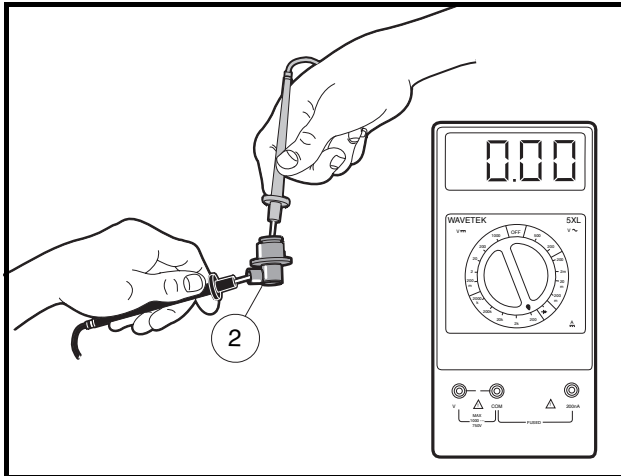

Figure 11-29 Spark Plug Cap Test
- 4.3. Using a multimeter set to 200 ohms, place the red (+) probe of the multimeter into the end of the spark plug cap that normally connects to the spark plug and place the black (–) probe into the end of the cap with the internal screw (**Figure 11-29, Page 11-28**). If no continuity, the cap has failed and must be replaced. Proceed to the next step with the spark plug cap still removed.
- 4.3. Using a multimeter set to 20k ohms, place the red (+) probe of the multimeter into the end of the spark plug cap that normally connects to the spark plug and place the black (-) probe into the end of the cap with the internal screw (**Figure 11-29, Page 11-28**). If the multimeter does not indicate continuity, the cap has failed and must be replaced. Proceed to the next step with the spark plug cap still removed.